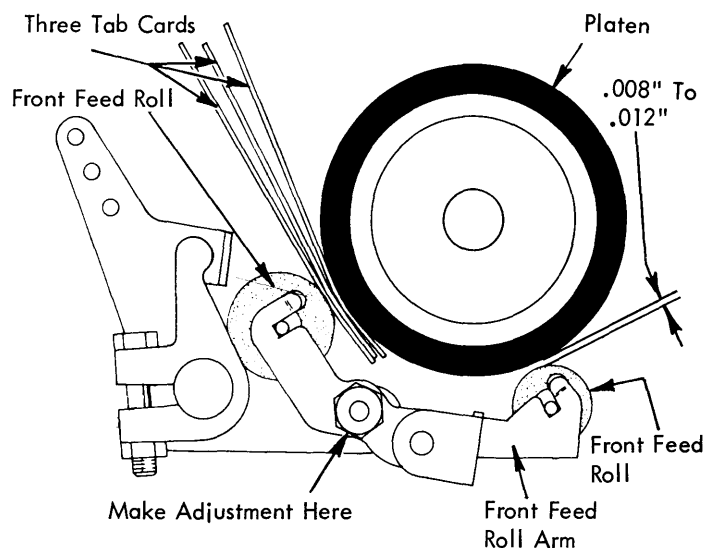

FIGURE 181. Feed Roll Adjusting Eccentrics (Old Style)
- a. Old Style - Adjust the eccentrics with the high points to the rear so that three tab cards inserted between the platen and the rear feed rolls will cause a clearance of .008" to .012" between the front feed rolls and the platen (Fig. 181). The clearance should be equal on both ends of the feed roll.